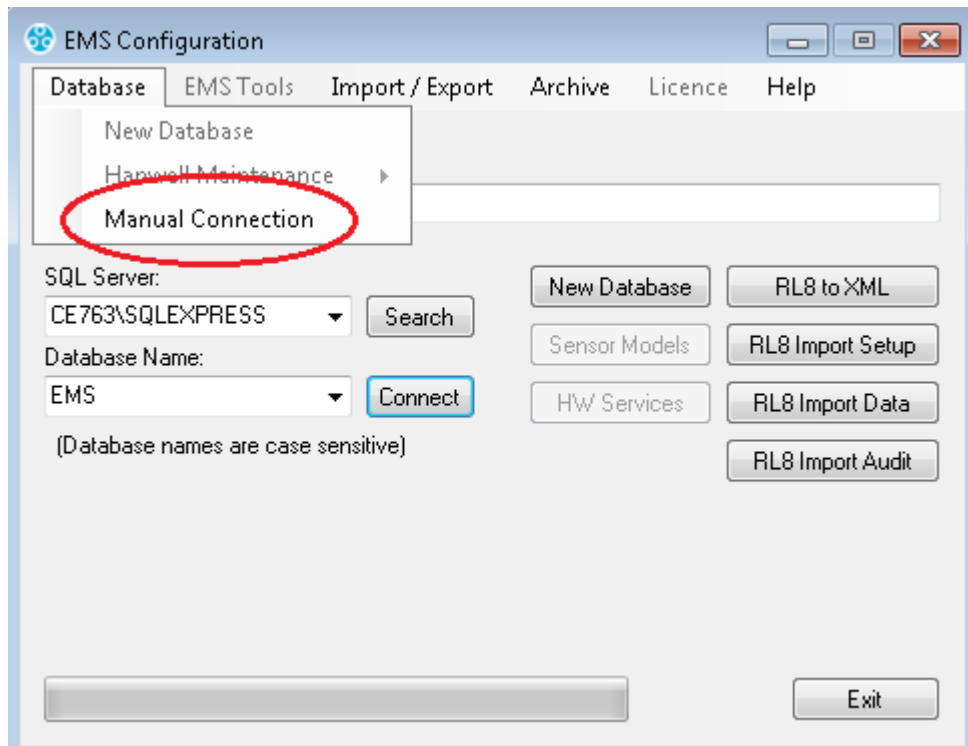

Figure 115
1. Select the **Manual Connection** menu item from the **Database** menu. See Figure 115 below: